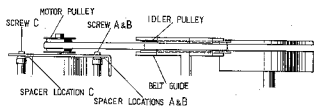

Fig. 5.6
Refer to Fig. 5.6 and item 3.15, motor and motor governor ass'y removal procedure.
- (1) Adjust the motor pulley position and check to insure whether the drive belt is travelling along the correct position and staying at the correct position, i.e. the center part of motor pulley and the idler pulley without contacting the belt guide at the following modes: